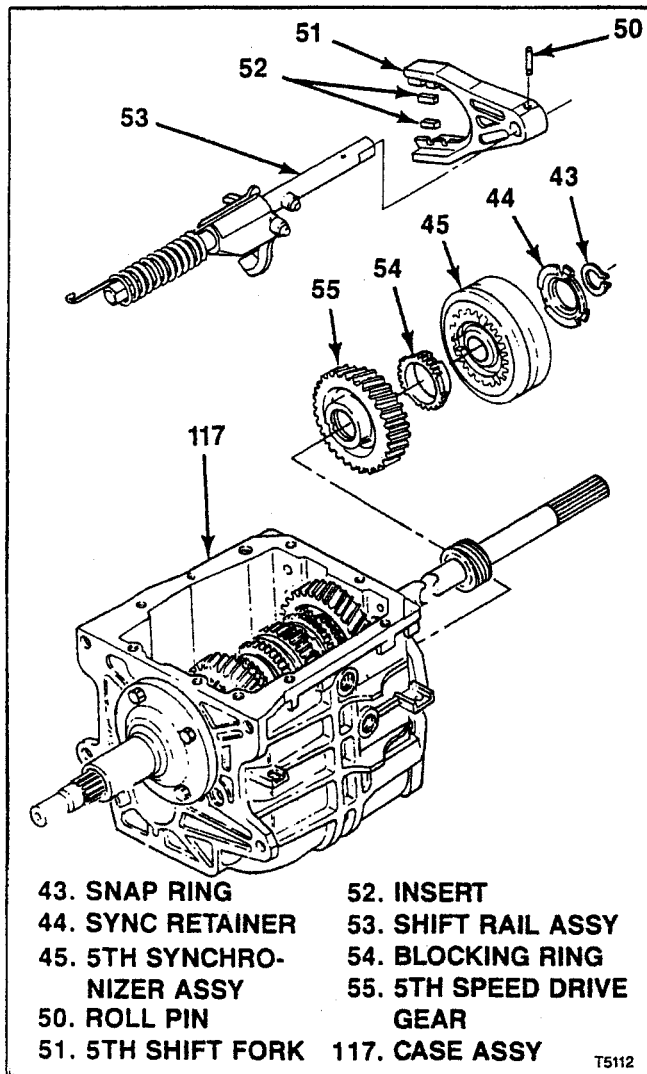

Figure 3-5. T5 WC 5th Synchronizer,
- a. From inside transmission assembly, remove retaining ring (39).
- b. From outside transmission, remove pivot pin (40) and back-up switch (41).
- c. Work 5-R shift lever (42) out of engagement and lift out top of transmission case (117).
3-11. REMOVAL OF T5 WC 5TH SYNCHRONIZER, SHIFT FORK AND GEAR. At rear of transmission case (117), remove parts as follows (see figure 3-5):
- a. Remove snap ring (43) and 5th synchronizer retainer (44).
- b. Simultaneously pull 5th synchronizer assembly (45) and 5th shift fork (51) with attached shift rail assembly (53).
- c. To separate 5th shift fork (51) and shift rail assembly (53), drive out roll pin (50). Remove inserts (52) from fork.